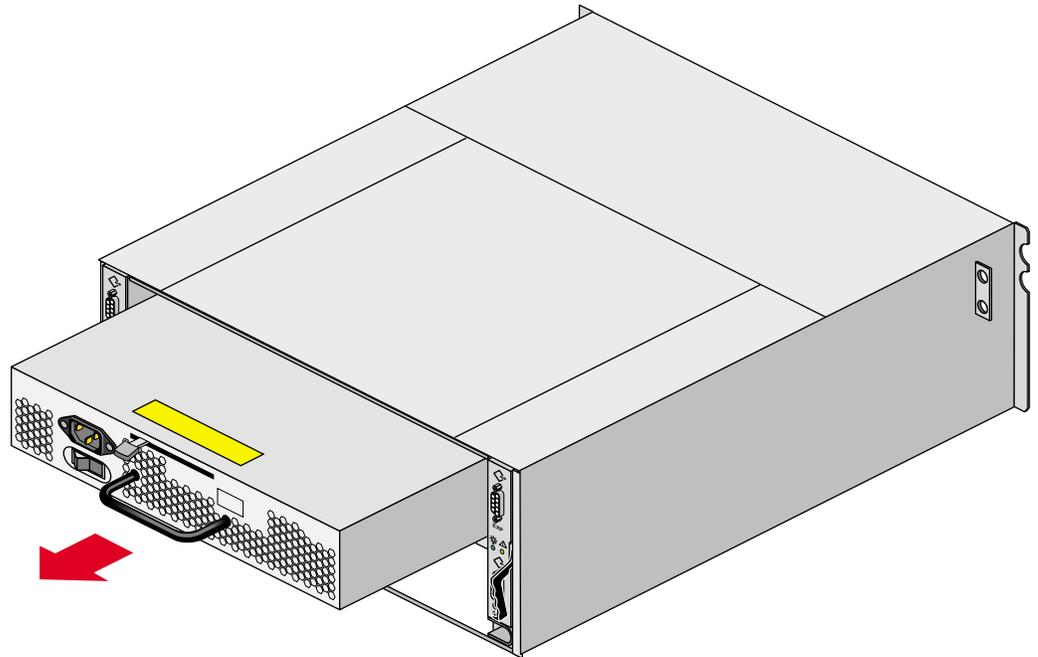

Figure 4-10 Removing a FibreVault Power Supply
7. Pulling the handle, slide the filler or power supply out of the bay, supporting it with your other hand, as shown in Figure 4-10.